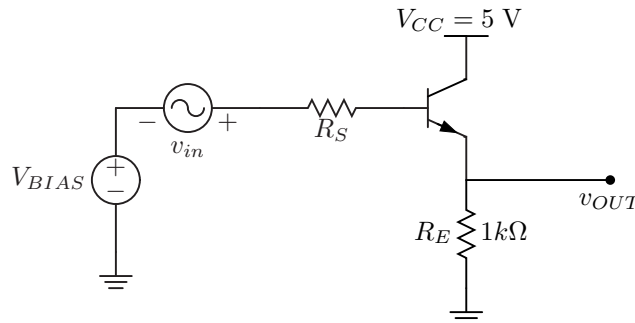

Figure 4: Common collector amplifier test setup
- The common collector amplifier is a wide bandwidth amplifier. Let's examine the frequency response of this amplifier by building the common collector amplifier as shown in Figure 4. Configure the NI Bode Analyzer with an input signal of amplitude 1 V and DC offset of 1 V (which is 2 V effective DC offset) for v_{in} and V_{BIAS} .